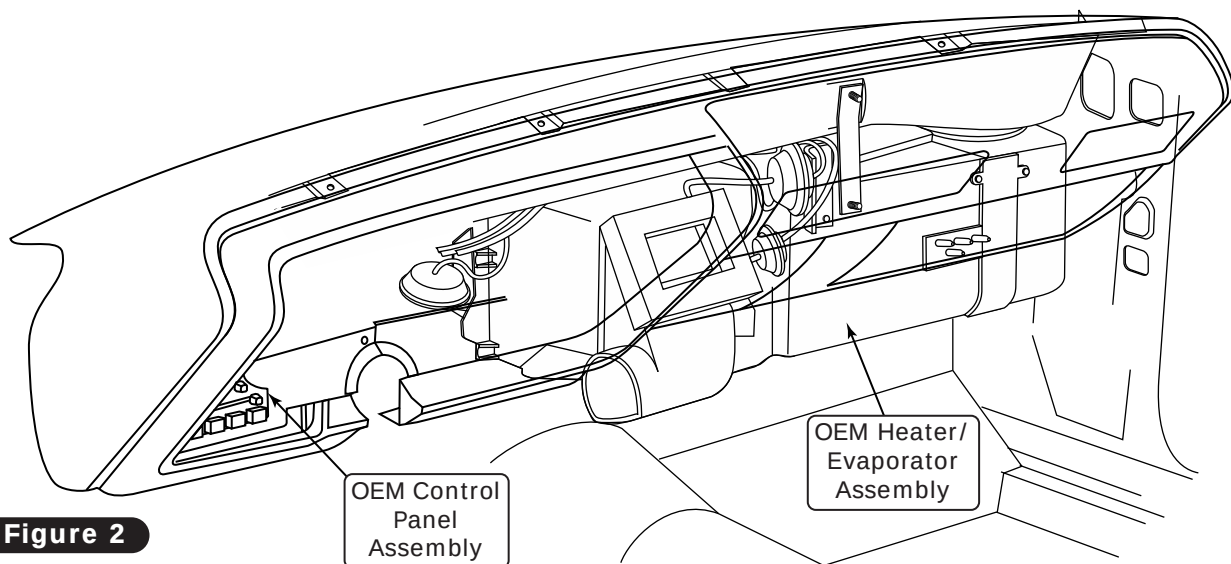

Figure 2
6. Remove the OEM heater/evaporator assembly from under the dash as shown in Figure 2, below.
7. Remove the OEM control panel assembly from the dash as shown in Figure 2, below.